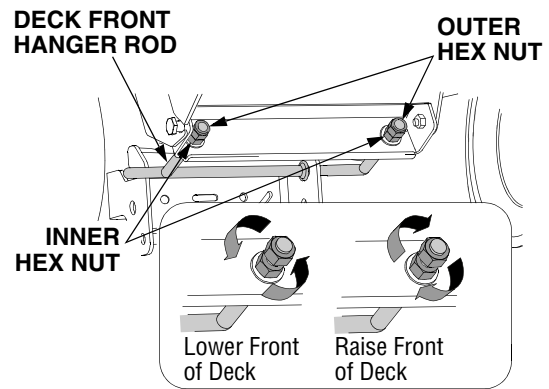

Figure 50
4. From the front of the tractor, loosen the outer nuts on the deck front hanger rod, and turn them away from the inner nuts. (See Figure 50).